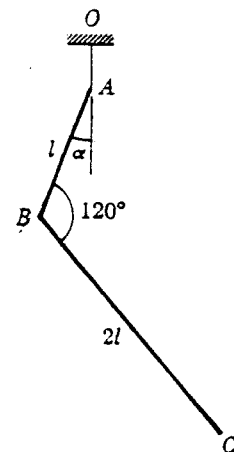

Fig. 4
- (4) Two prismatic homogeneous bars *AB* and *BC* of length  $l$  and  $2l$ , respectively, are rigidly joined at *B* at an angle of  $120^\circ$  to each other, as shown in Fig. 4. In the suspended position shown, *AB* makes an angle  $\alpha$  with the vertical string *OA*. Determine the value of  $\alpha$ . (Hint: the resultant of the weight of the bars should be along *OA*, 15 marks)